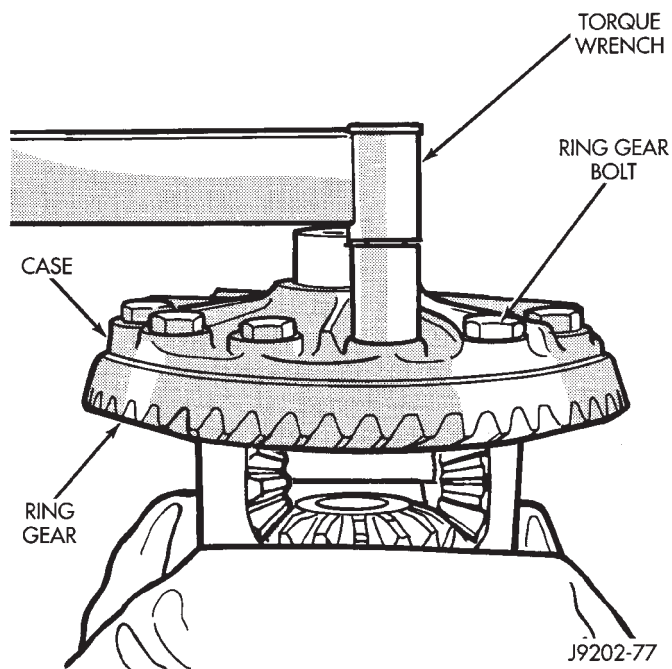

Fig. 27 Ring Gear Bolt Installation
(1) Invert the differential case and start two ring gear bolts. This will provide case-to-ring gear bolt hole alignment.
(2) Invert the differential case in the vise.
(3) Install new ring gear bolts and alternately tighten to 95–122 N·m (70–90 ft. lbs.) torque (Fig. 27).
(4) Install differential in axle housing and verify gear mesh and contact pattern.